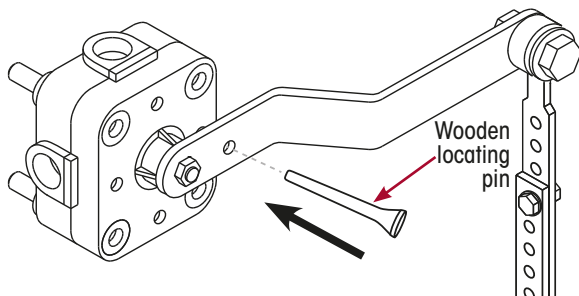

Figure 185: Temporarily Hold HCV with Wooden Dowel
NOTICE: When necessary, temporarily install wooden or plastic centring dowel pin to hold the Barksdale height control valve in position. Do not use a metal pin, which would cause permanent damage to the HCV if the suspension moved. Refer Figure 185.
3. When the suspension is at the designed ride height, insert a wooden (or plastic) locating pin into the adjusting block and bracket on the height control valve. This will lock the control arm in the neutral position, preventing inadvertent ride-height adjustments when attaching the linkage in the next step. Refer Figure 185.